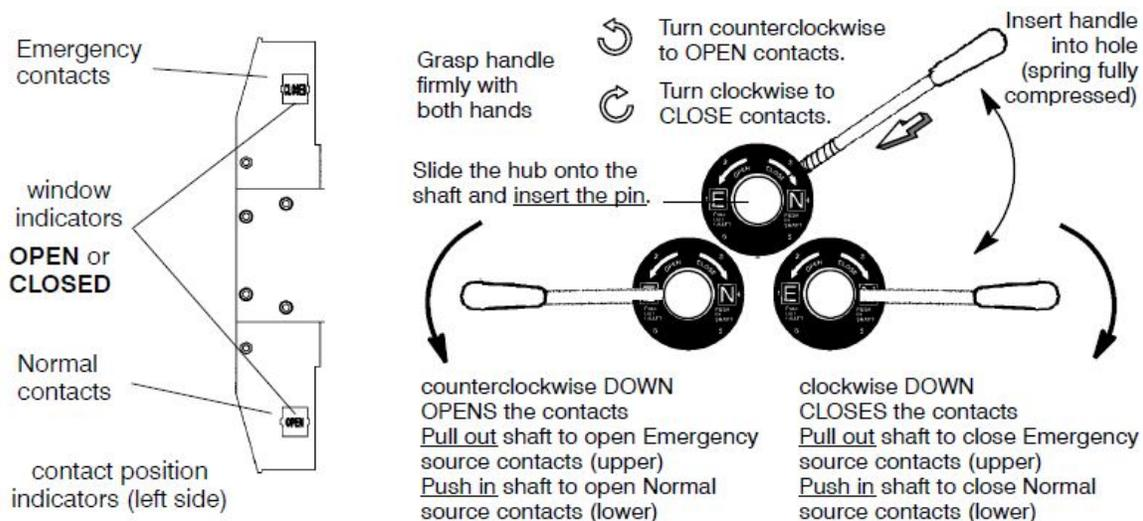

Figure 5. 1000 – 4000 ampere G design transfer switches
*1000 – 4000 ampere G-design* See Figure 5